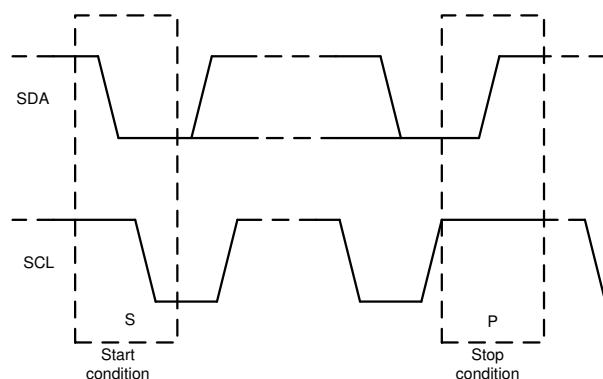

Figure 6-24. Start and Stop Conditions
1. The controller initiates data transfer by generating a start condition. The start condition is when a high-to-low transition occurs on the SDA line while SCL is high, as shown in Figure 6-24. All I²C-compatible devices recognize a start condition.
4. To signal the end of the data transfer, the controller generates a stop condition by pulling the SDA line from low-to-high while the SCL line is high, as shown in Figure 6-24. This action releases the bus and stops the communication link with the addressed target. All I²C-compatible devices recognize the stop condition. Upon receipt of a stop condition, the bus is released, and all target devices then wait for a start condition followed by a matching address.